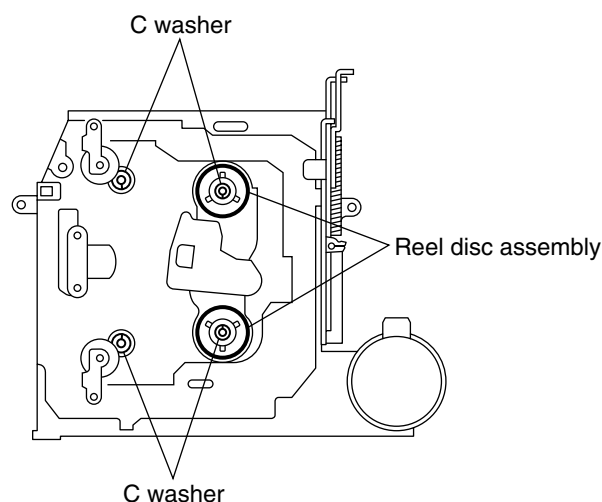

Fig.4
■ Removing the reel disc assembly (See Fig.4)